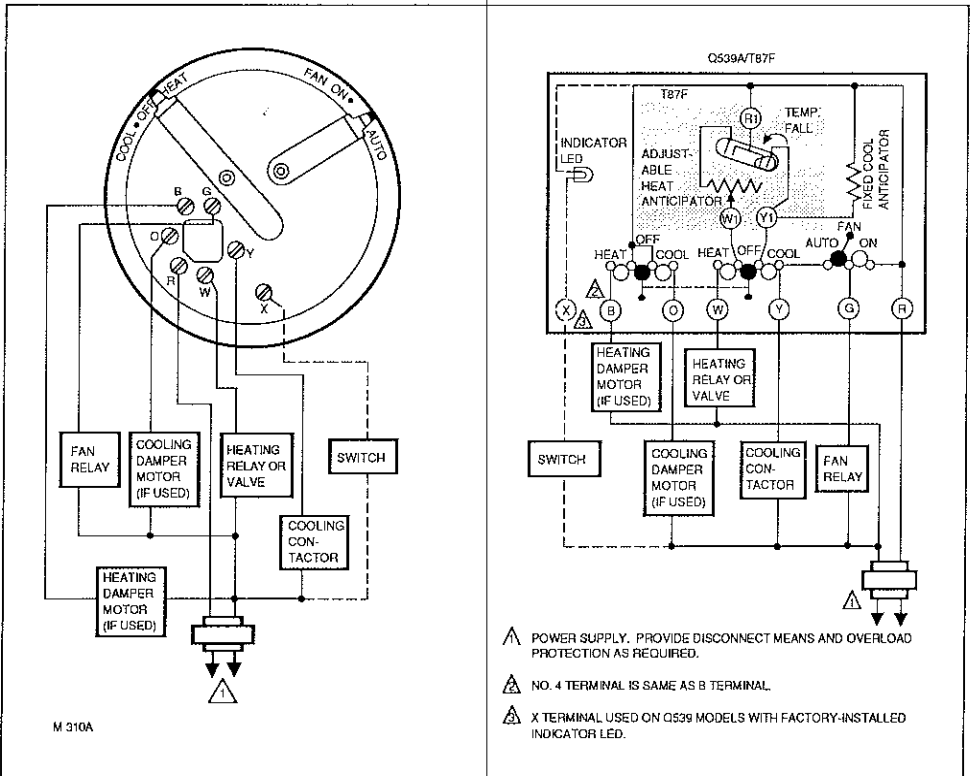

Fig. 1—Q539A,C in heating-cooling application using common power supply.
3. Connect the wires to the terminals inside the subbase. Refer to equipment manufacturer's instructions for Q539 wiring diagrams. If not available, refer to Figs. 1 through 9.